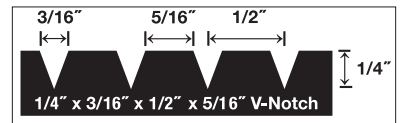

Figure 2
- 1/4" x 1/2" x 3/16" (6 mm x 13 mm x 5 mm) trowel (Figure 2)